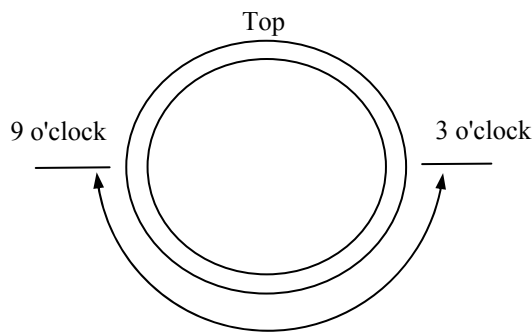

Figure 3. Area of Inspection, 3-9 o'clock
- a. Apply couplant to a small section of crosstube from 3 to 9 o'clock. Reference Figure 3.